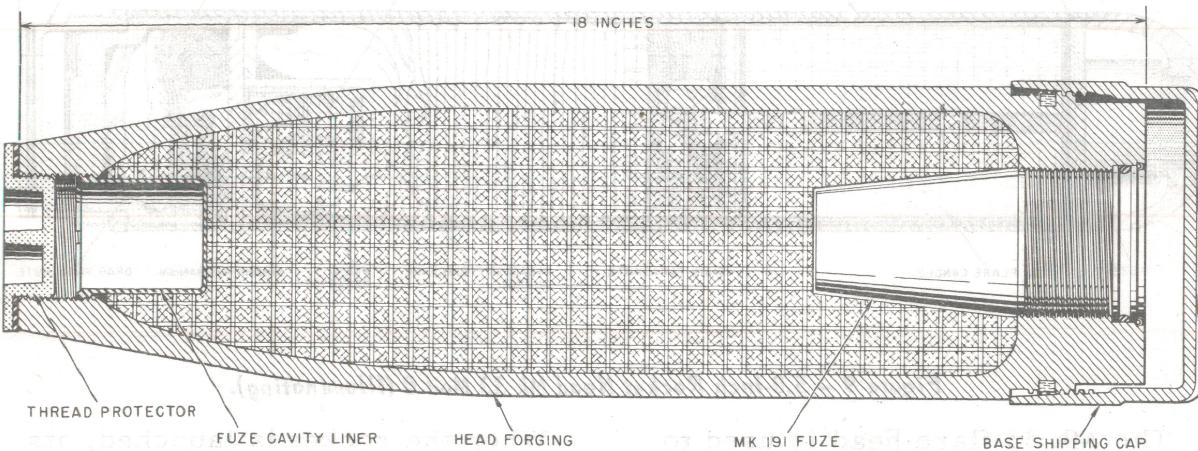

Figure 8 - 5.0-Inch Rocket Head Mk 24 Mod 0 (GP).
**24 MOD 0 (GP).** The Mk 24, general purpose (GP) head, shown in figure 8, with nose fuze installed, is 18 inches long, weighs 48 pounds, and carries 10 pounds of explosive. Upon detonation the head produces more than 500 fragments that penetrate 3/8-inch-thick mild-steel